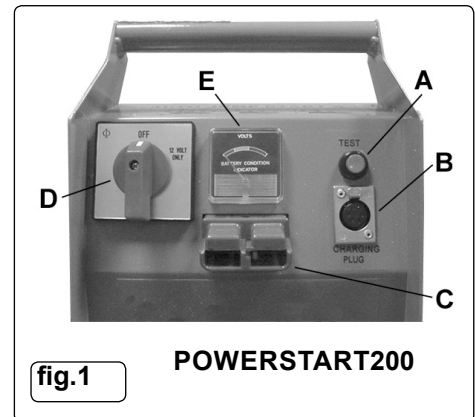
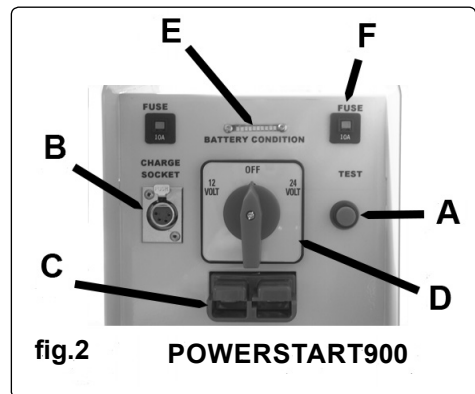

fig.1 POWERSTART200
fig.2 POWERSTART900
The charge level of the POWERSTART200 can be seen at any time by pressing the test button (fig.1.A) and noting the meter (fig.1.E) reading.
- 4.1.1. For the POWERSTART500 and 900 models press and hold the test button, the LED's (fig.2.E) from left to right, four orange (low power) and six green will light up one by one and stop at the level of charge, the further to the right the higher the charge.
- 4.2.2. Ensure that the POWERSTART control switch (fig.1.D) is in the 'Off' position.
- 4.2.4. Plug the charger cable into the charge input socket (fig.1.B) of the unit. The unit will now charge automatically and the charger LED's will indicate the level of charge. When the green 'Full' LED comes on, charging is complete but the charger should not be disconnected or switched off.
- 5.7. With the POWERSTART control switch (fig.1.D & fig.2.D) set to 'Off' plug the leads into the socket (fig.1.C or fig.2.C).
- 5.8. On models POWERSTART500 AND POWERSTART900 turn the control switch (fig.2.D) to select 12 or 24V to match the vehicle voltage. On model POWERSTART200 turn the switch (fig.1.D) to select 12V.